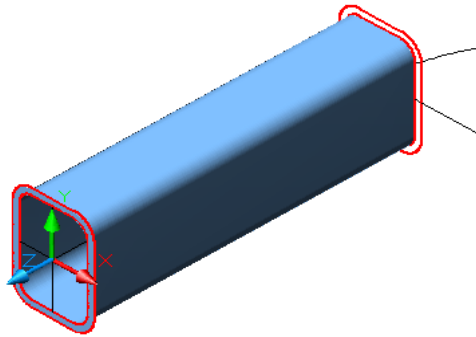

Figure Step 12
Step 12 Set the current visual style to Realistic. (Figure Step 12)